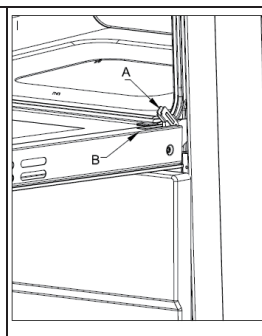

Fig.2
- Open the lever A completely on the left and right hinges (fig.2).